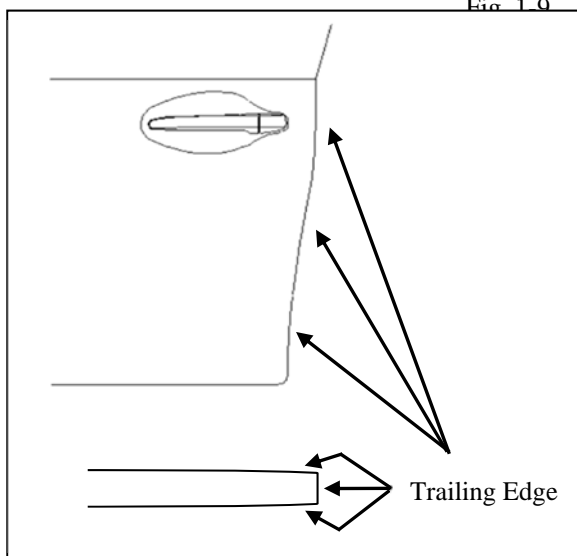

Fig. 2-1
(1) Fully open the front driver door.
(2) Using 2 (two) lint free cloths:
- a. Spray three to four pumps of Simple Green (or VDC approved cleaner) onto a lint free towel and pinch the wet towel between your thumb and forefinger while running along the length of the door edge to clean the inside and outside of the trailing edge of door. Make several passes to ensure the wax and oil has been removed (Fig. 2-1).